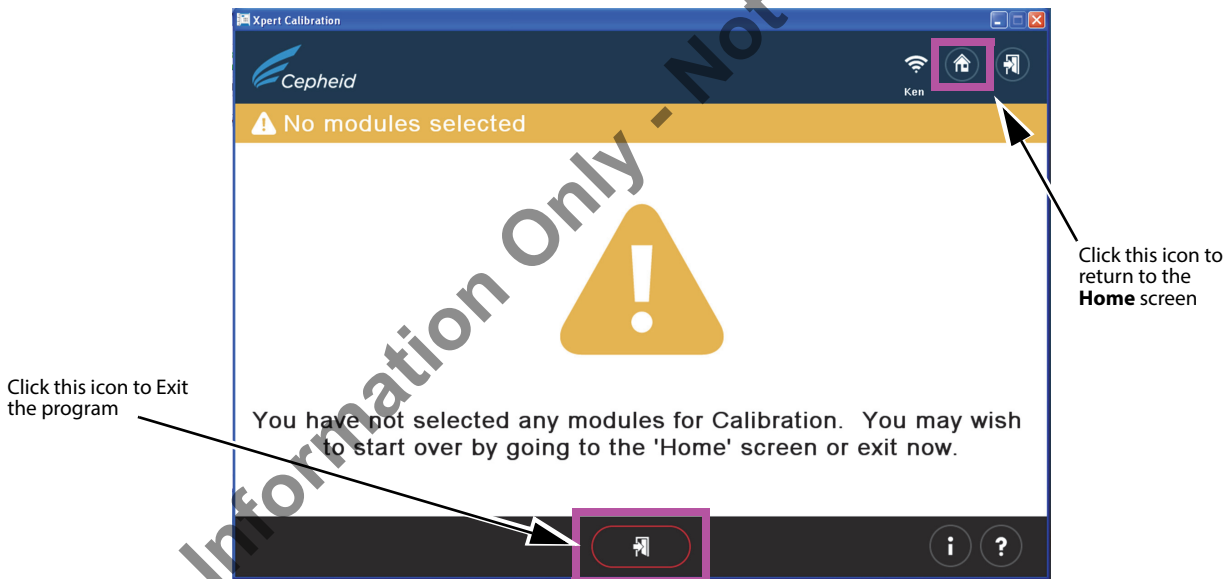

Figure 11. Error Screen - No Modules Selected
13. If all modules have been excluded in the above step by mistake, the following screen will appear (Figure 11), advising you to start over by returning to the **Home** screen or exiting the program.